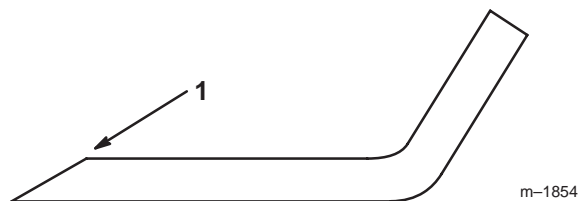

Figure 21
1. Use a file to sharpen the cutting edge at both ends of the blade (Fig. 21). Maintain the original angle. The blade retains its balance if the same amount of material is removed from both cutting edges.